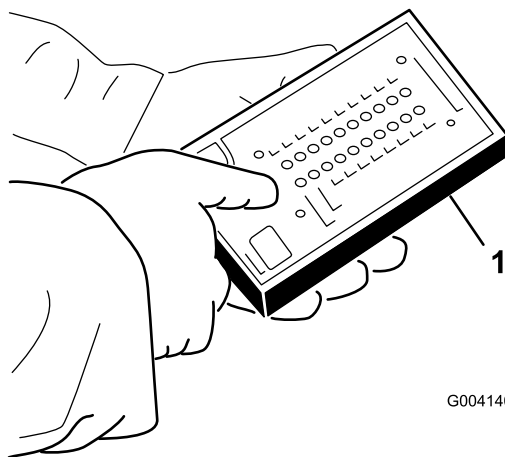

Figure 101
5. Connect the Diagnostic ACE display connector to the harness connector (Figure 101).